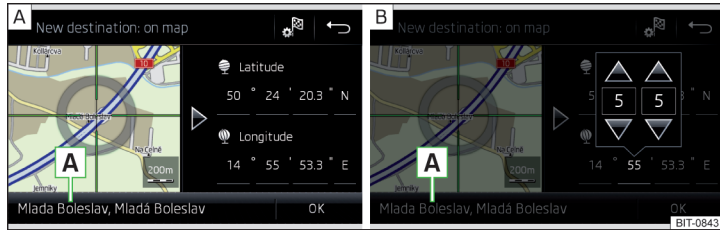

Fig. 219 Enter destination: via the map point / using the GPS coordinates
- ▶ By sliding the screen move the desired destination into the cross-hair » Fig. 219 - **A**.
- ▶ Tap in the values of the GPS coordinates one at a time and adjust » Fig. 219 - **B**.
If information is available about the point entered in the navigation data, then these will be displayed instead of the GPS coordinates (e.g. address **A**) » Fig. 219).